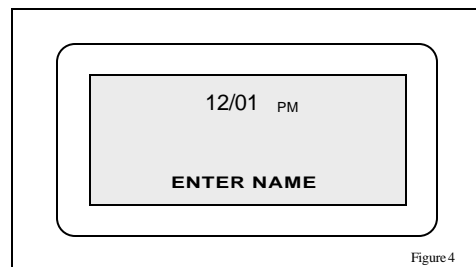

Figure 4
5. After entering the number, press the “**STORE**” key. The display will read “ENTER NAME” (figure 4).